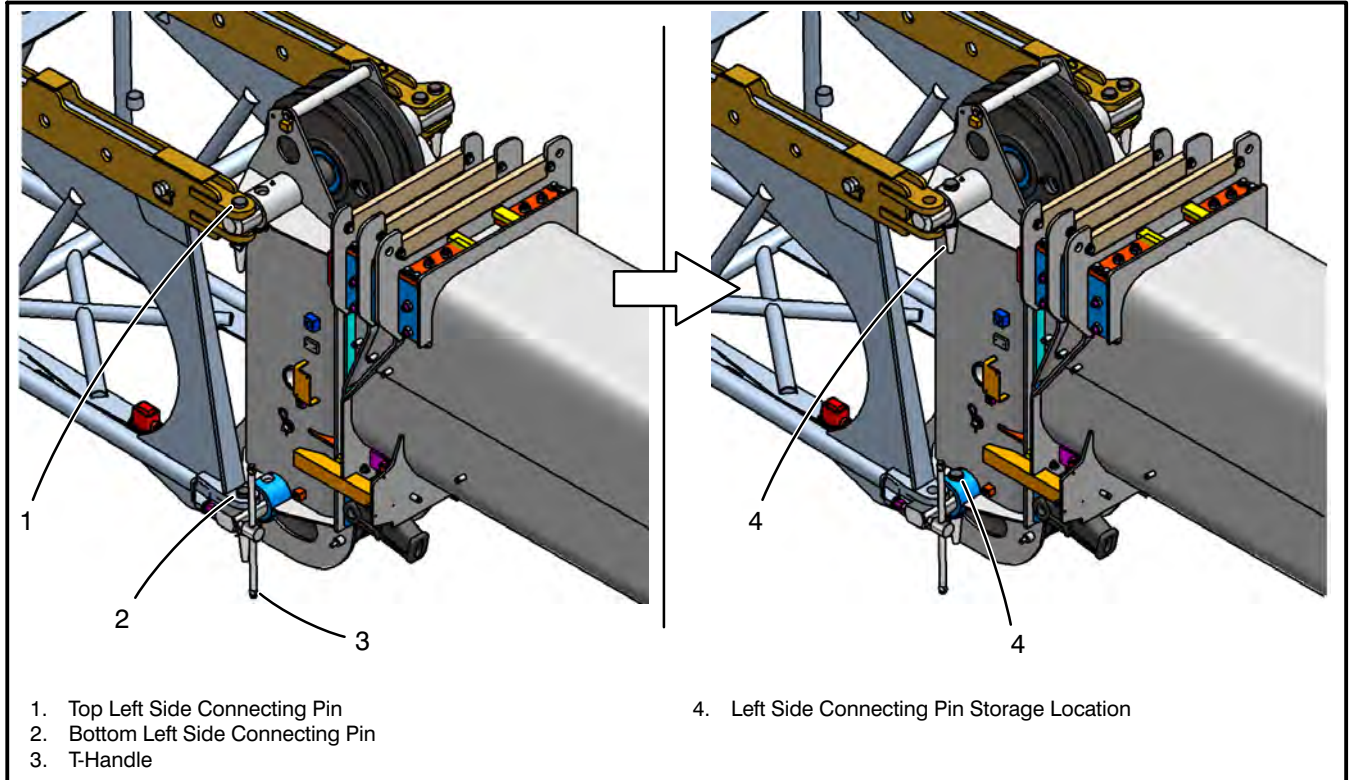

Figure 4-11
12. Remove the bottom left fly base connecting pin on the left side of the fly using the t-handle to assist in relieving the load on the pin. Refer to Figure 4-11. Back off the t-handle until at least a 1/2 in (1.3cm) clearance from the fly lug is obtained. Remove the top left fly base connecting pin. Store connecting pins in the storage holes on the boom head cross shafts on the left side of the boom.